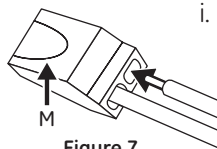

Figure 7
- e. Connect the house AC power supply ground wire (green or bare copper) by pushing into the Push-in quick wire connector (M) with the green/yellow wire.
- f. Connect the house AC power supply neutral (white) wire by pushing into the Push-in quick wire connector (M) with the white wire.
- g. Connect the house AC power supply line (black) wire by pushing into the Push-in quick wire connector (M) with the black wire (see **Figure 7**).
- h. If house power supply electrical connections were made to the Push-in quick wire connectors (M) before ensuring they were routed through the correct back mounting plate (L) hole or before routing through the gasket (H):